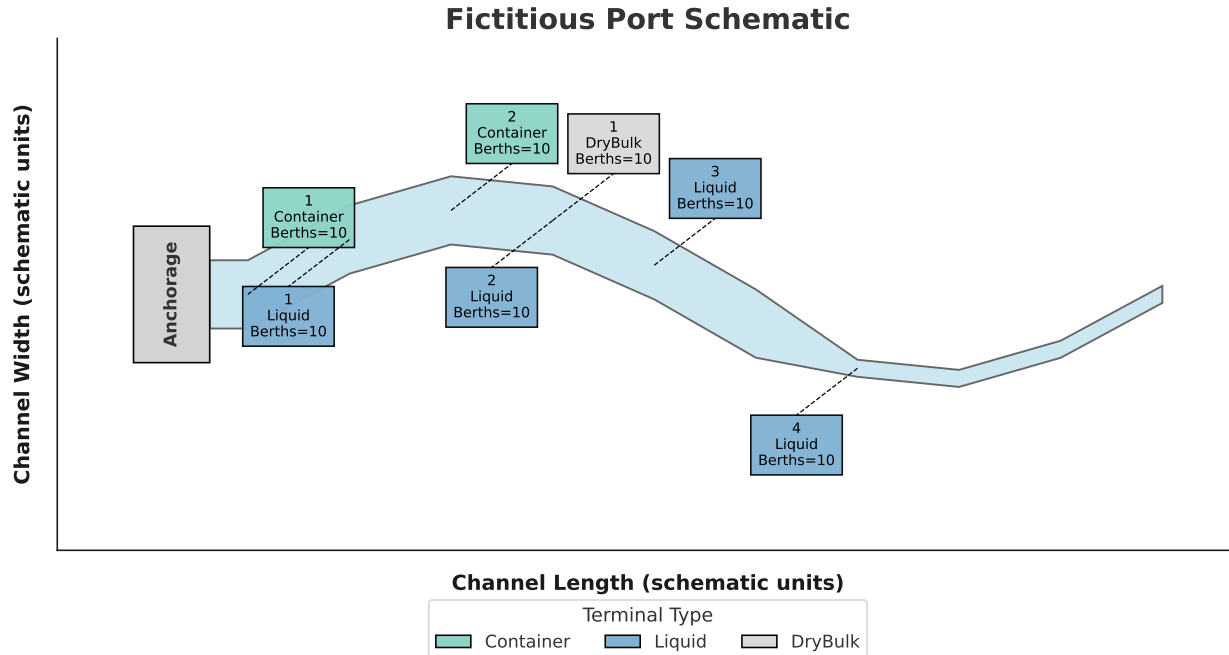

Figure 1.1: Fictitious port
The simulation framework is designed for ports organized with an **anchorage area** followed by terminals located along a **navigational channel**. Dummy data for a fictitious port are included for demonstration. The fictitious port is shown in Figure 1.1
- Default values in the distributed file are *dummy values* for the port shown in Figure 1.1; these must be replaced with actual port data prior to official runs.
**Default values:** Default values in the distributed file are *dummy values* for the port shown in Figure 1.1; these must be replaced with actual port data prior to official runs.